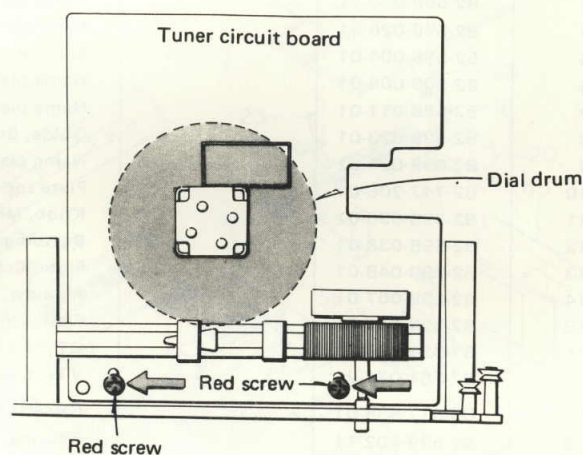

Fig. 12
2) After unfastened the two screws, pull out the p.v.c. from the dial drum to remove the tuner circuit board. (See figure 12)